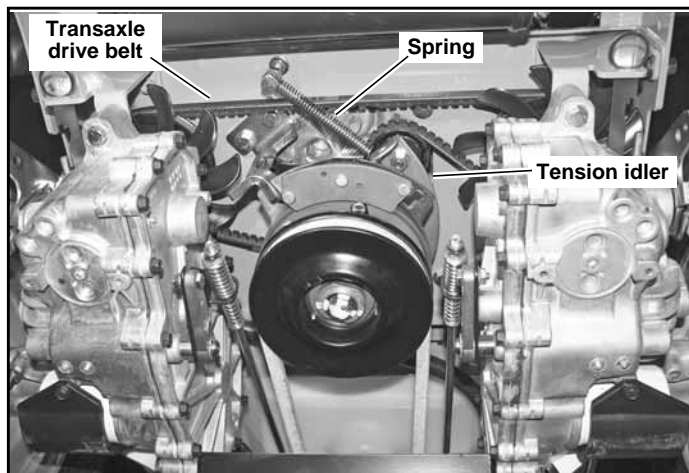

Figure 4-10
a tension idler and spring. There is no tension adjustment of this belt. Figure 4-10
7. Locate the tension idler spring. Securely clamp locking pliers onto the spring at the end located next to the idler arm. Figure 4-10